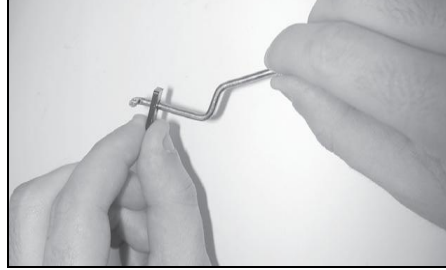

Figure 5
5. Insert the small end of the choke rod through the bottom of the nylon main body block off plate towards the top (Fig. 5).